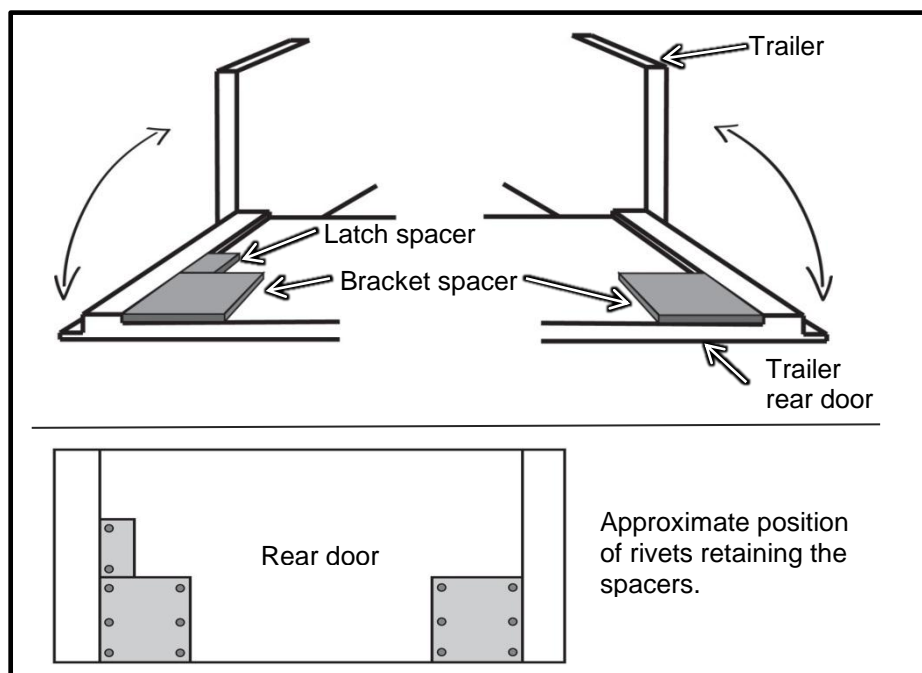
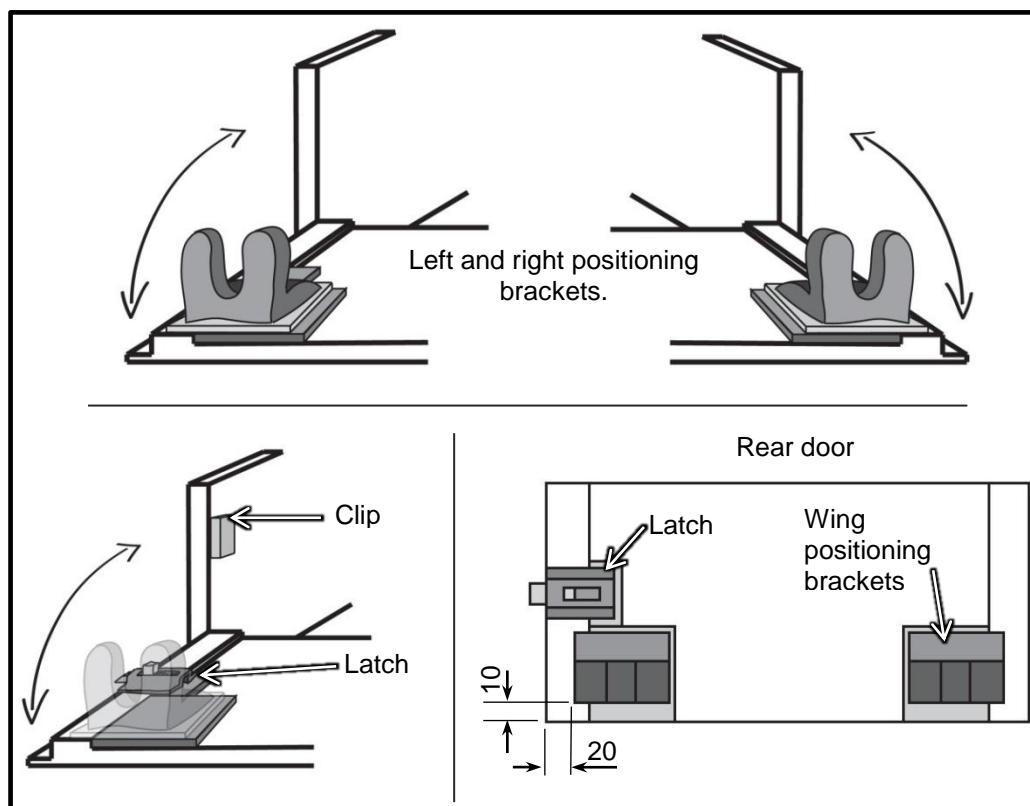

Figure 13
Figure 14
To ensure that the wing seats and the positioning brackets line up, the positioning brackets have to move as well. Figure 13 and Figure 14 provides illustrations on this modification.
- 6.3. Fit the spacers as illustrated in Figure 13. Neatly cut a bit of the rubber lining away for the spacers to fit. Drill the necessary holes and rivet only the wing positioning bracket spacers to the door. Use Figure 13 as a guideline. Be sure to make a counter sink recess where the holes are drilled in the spacers and use countersink rivets for fastening. Keep in mind that the brackets and latch has to be riveted to the spacers.
- 6.4. Fit the new brackets in the new position on top of the spacers- 10mm from top and 20mm from side. (Figure 14)
- 6.8. It is also necessary to move the latch's clip to a new position so that the latch has something to clip into. (Figure 14)